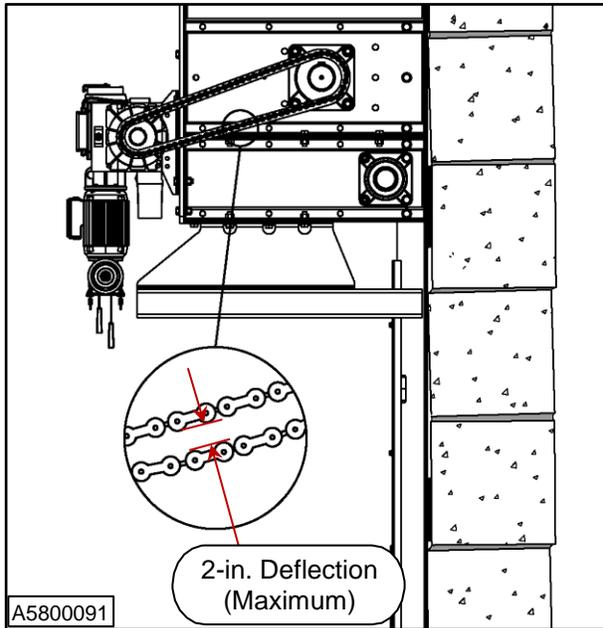

Figure 31
3. Verify the amount of tension in the drive chain. A correctly-tensioned chain will deflect no more than two in. (See Figure 31)